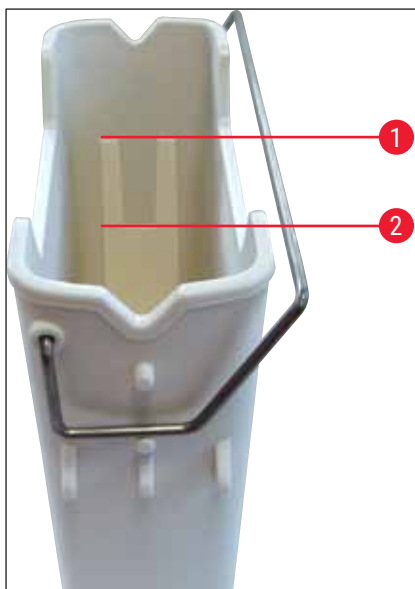
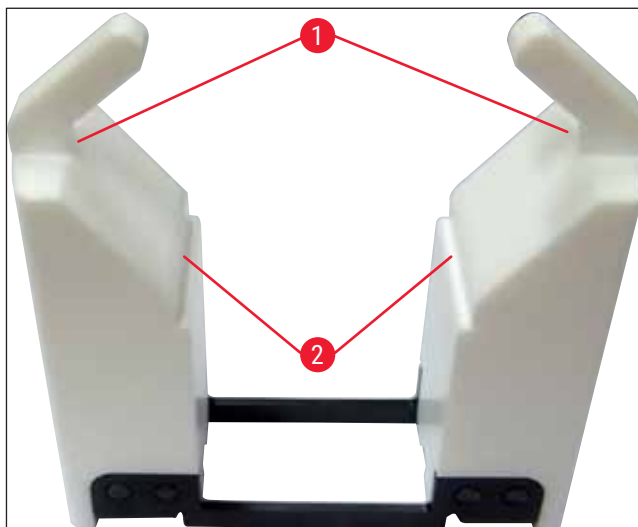

Fig. 65
Fig. 66
Check whether the reagent vessel handle is correctly attached to the reagent vessel. If this is not the case, fasten the handle according to (→ "Fig. 65").
- When filling either reagent vessel type, observe the fill level marks inside the reagent vessels (→ "Fig. 65") (→ "Fig. 66").
- If inserts for special stainings (→ "Fig. 66") are used in the reagent vessels in order to reduce reagent volume, insert these into the reagent vessel first and then fill the reagent at least up to the minimum filling level indicated (→ "Fig. 66-2"), but not over the maximum filling level (→ "Fig. 66-1").